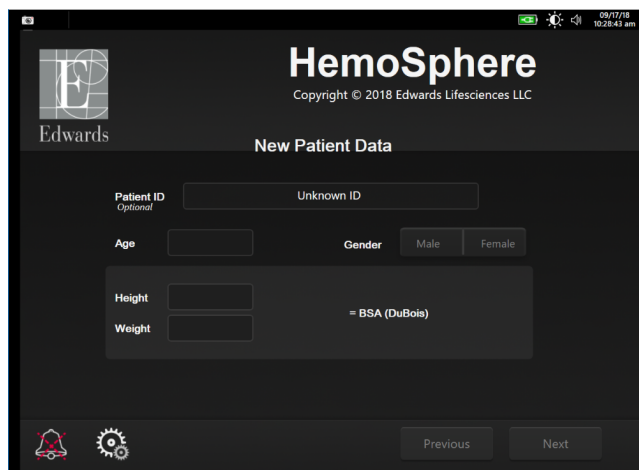

Figure 6-2: New Patient Data screen
5. The **New Patient Data** screen appears. See Figure 6-2 on page 128.